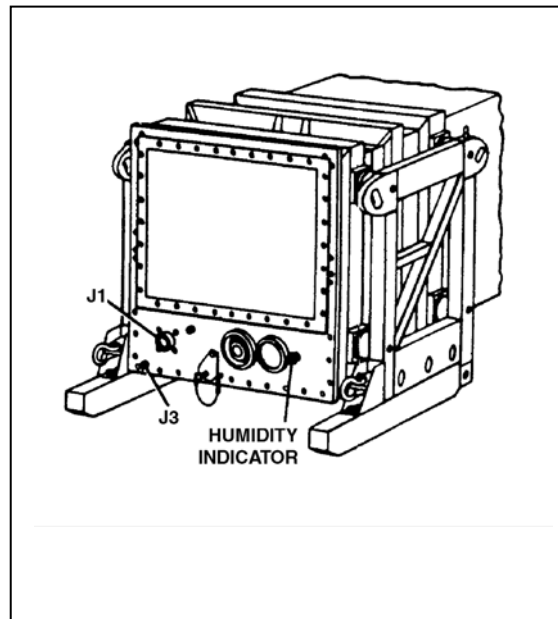

Figure G-2. GM canister instrument panel.
- Check that the grounding plug is connected to electrical connector J1 (Figure G-2).